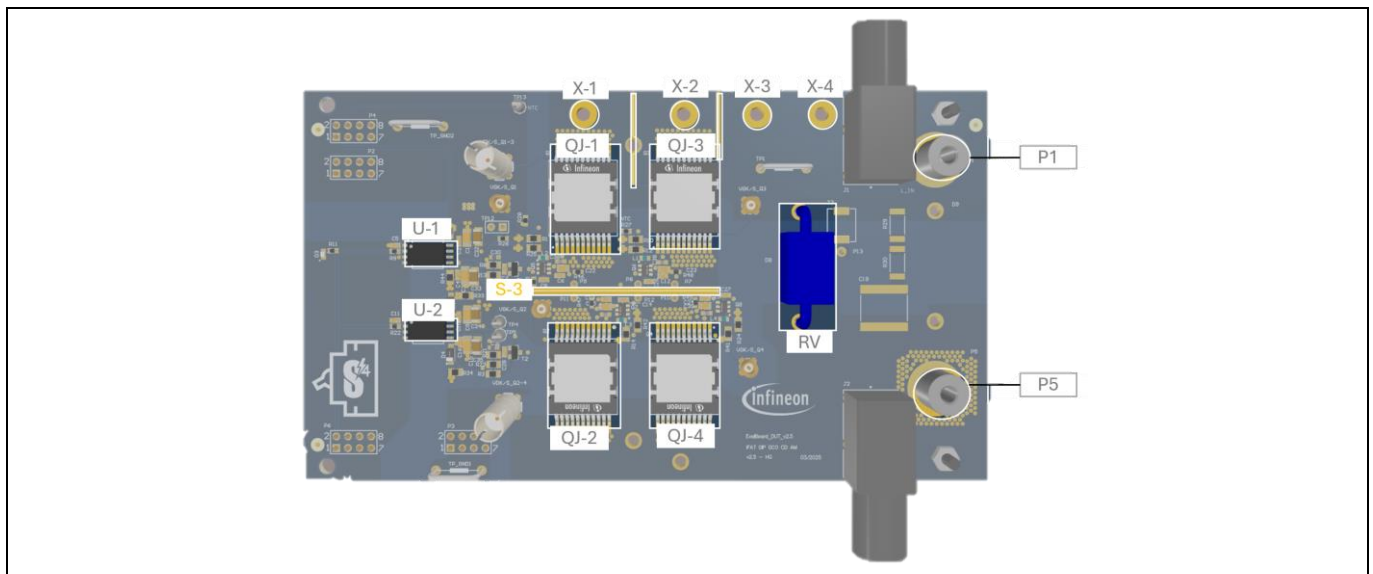

Figure 4 DUT board PCB
7. As shown in Figure 4, fill in the solder bridge S-3, which connects the source pins of the device pair QJ-1 /QJ-3 with the source pins of the device pair QJ-2/QJ-4